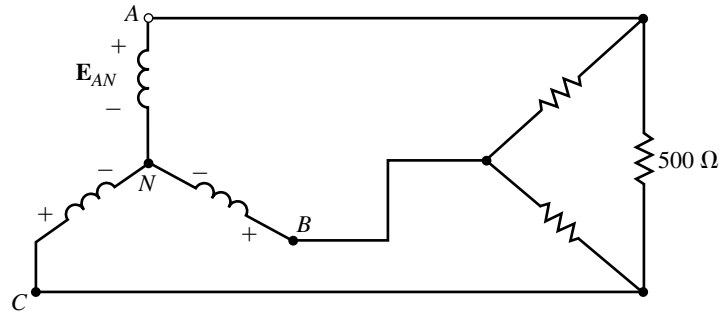

FIGURE 23-51
33. Repeat Problem 32 for the balanced load of Figure 23-51, given $E_{AN} = 120 \text{ V}$.